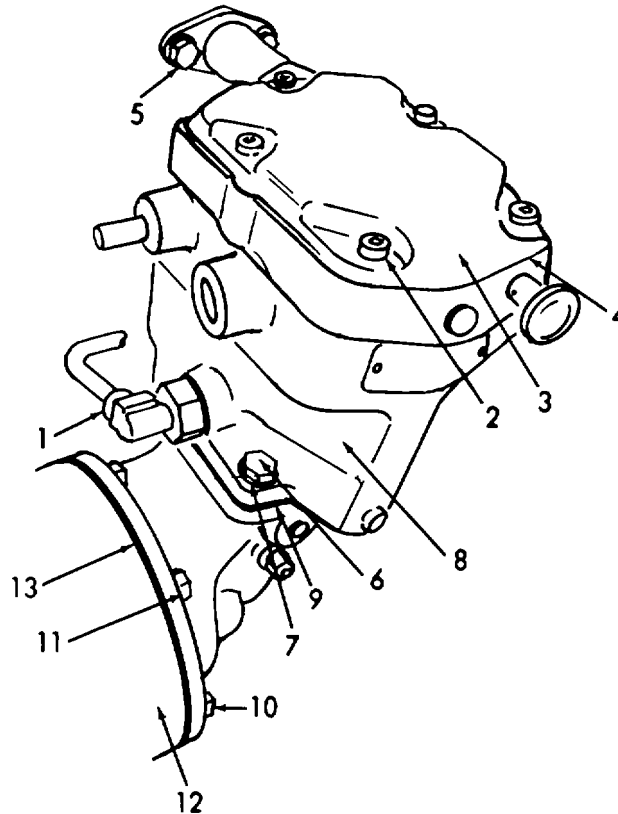
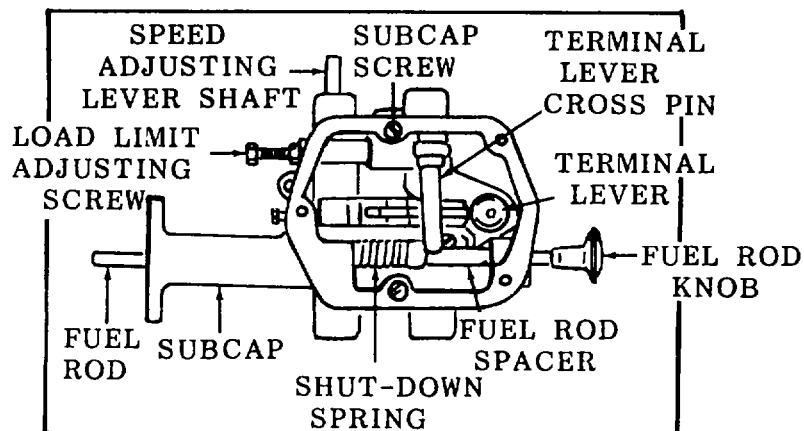

Figure 3-17. Governor, Removal/Installation
Figure 3-18. Top View of Governor with Cover Removed.
- a. Removal. (Refer to figure 3-17).
- (1) Disconnect the oil inlet tube assembly (1) from the governor oil inlet plug.
- (2) Remove five cover screws (2), then lift the governor cover (3) and gasket (4) from the governor housing. Remove the two sub-caps to cylinder head bolts (5).
- (3) Refer to figure 3-18 and remove the two sub-cap retaining screws and lockwashers.
- (4) Lift up on the sub-cap assembly until a definite snap indicates that the fuel rod and collar have been freed from the terminal lever cross pin. Then, remove the sub-cap assembly, pulling the fuel rod out of the hole in cylinder head and throttle control rod mounting bracket.
- (5) Remove four bolts (6, figure 3-17) and four lockwashers (7) and lift the governor housing (8) away from the drive housing. Remove governor housing gasket (9).
- (6) Remove six drive housing bolts (10) and six flat washers (11) and separate the drive housing (12) from the blower. Remove drive housing gasket (13).